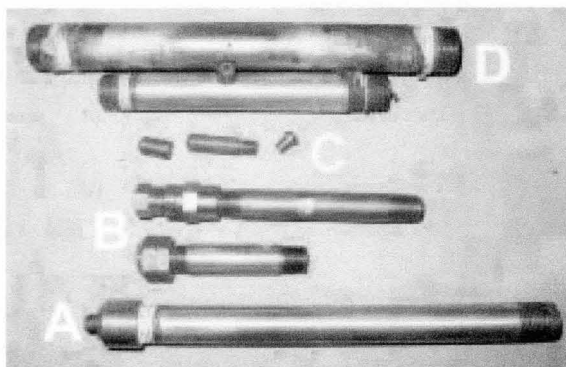

Figure 9: Gas delivery tubes
To finish the basic design, drill a hole slightly larger than the gas delivery pipe at right angles to the long axis of the burner somewhere in the bell (more on that later). A 1/4" pipe nipple (2nd from the top in Fig.9) requires a hole a bit larger than 1/2". A mechanism needs to be added to lock the gas pipe in place. For a 1/4 pipe, a 1/2 x 13 hex nut drilled out to slip over the pipe, drilled and taped for a set screw on one of the flats, and welded to the bell makes a decent lock mechanism.
A series of gas delivery tubes are shown in Fig.9. For the bell burner, you'll need an orifice somewhere around 0.040" diameter (#60 drill). Cap one end of the pipe, slip it through burner and mark the pipe midway across the bell. You can then: (1) drill a 0.040 or 0.035" hole in the pipe (a collet drill chuck helps here) (top pipe labeled "D"); (2) drill and tap a hole to accept a MIG tip (lower pipe labeled "D"), or (C) drill a 0.150" hole, press fit a TIG tip and drill it. Miller tips are 1/4x28, Lincoln tips are 12x24 and all are ~1/4" soft copper, so it's easy to cut them in half, rethread to 1/4x20 or 1/4x28 (Fig.9
C), and deburr the orifice. For a "T" burner, you can use a 1/8" pipe with a connection fitting and a plug (top pipe, Fig.9 B) or a cap (lower pipe, Fig.9 B) or use a 1/4" pipe (Fig.9 A) - here using a cap and a shortened MIG tip. In all these cases, the orifice has to be located at the center of the cap or plug, so it's back to the lathe again.